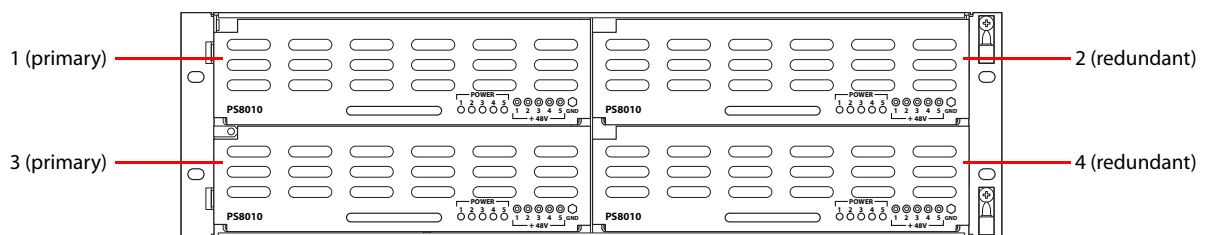

Figure 2-33. Power Supply (Front View)
- 5 Connect power cords from AC power sources (90–230 VAC, 50–60 Hz) into power supply connections PS 1 through PS 4, as shown in Figure 2-33. Connect one power cord for each PS8100 or PS8300 power supply module you will install.
- 6 Install the PS8100 or PS8300 power supply modules as illustrated in Figure 2-33: